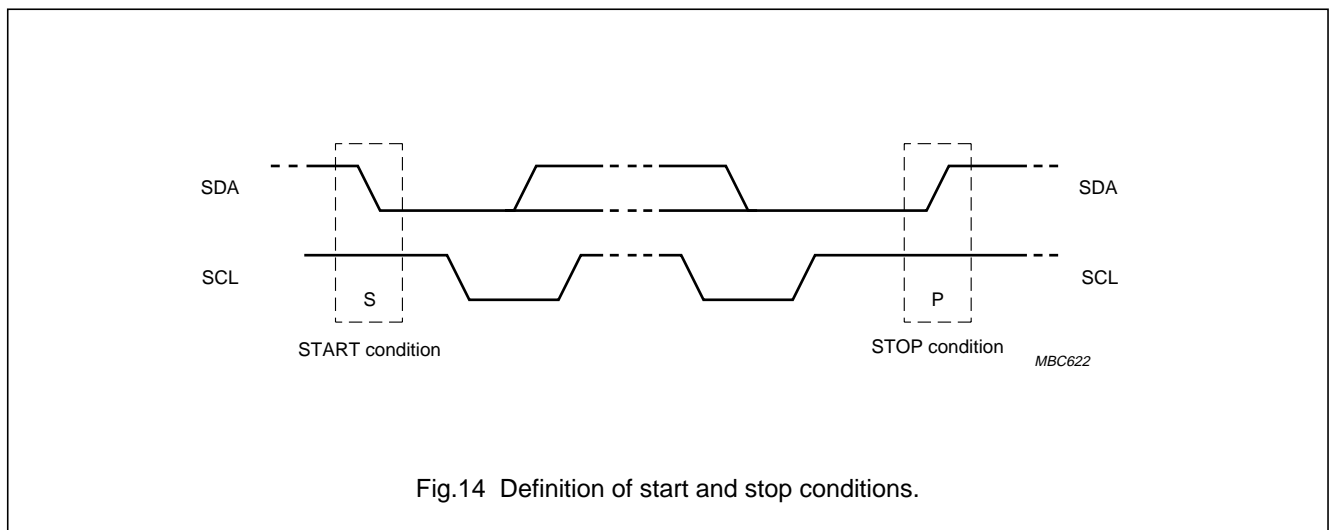

Fig.14 Definition of start and stop conditions.
Refer to Fig.14. Both data and clock lines remain HIGH when the bus is not busy. A HIGH-to-LOW transition of the data line, while the clock is HIGH is defined as the start condition (S). A LOW-to-HIGH transition of the data line while the clock is HIGH is defined as the stop condition (P).